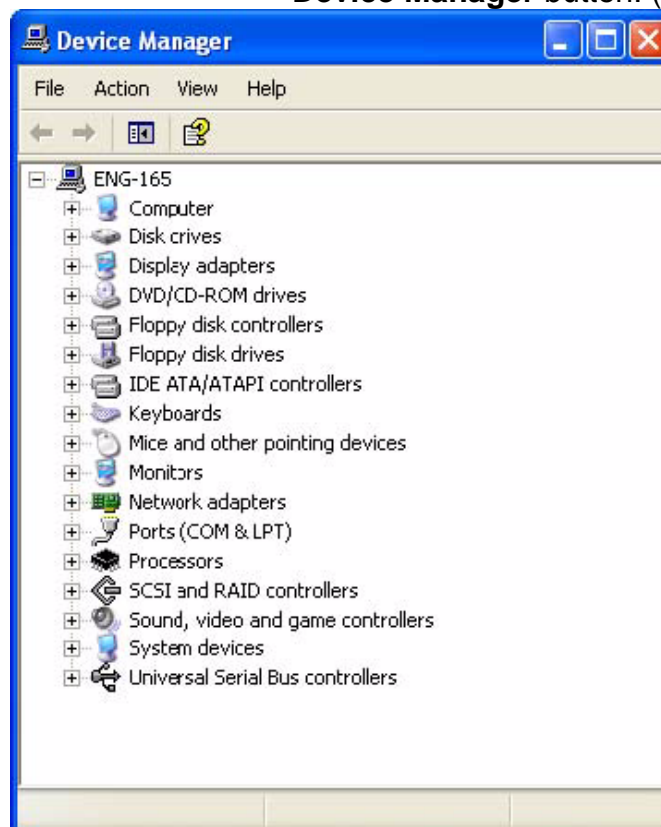

Figure 6-3 Device Manger
3. Click the **Hardware** tab, and then click the **Device Manager** button. (Figure 6-3).